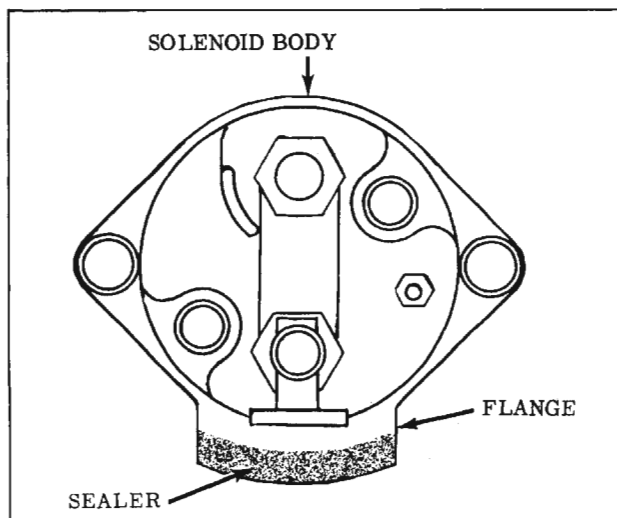

Fig. 14-37 Sealing Solenoid Housing
5. Apply sealer, Part No. 557622 on solenoid flange as shown in Fig. 14-37.